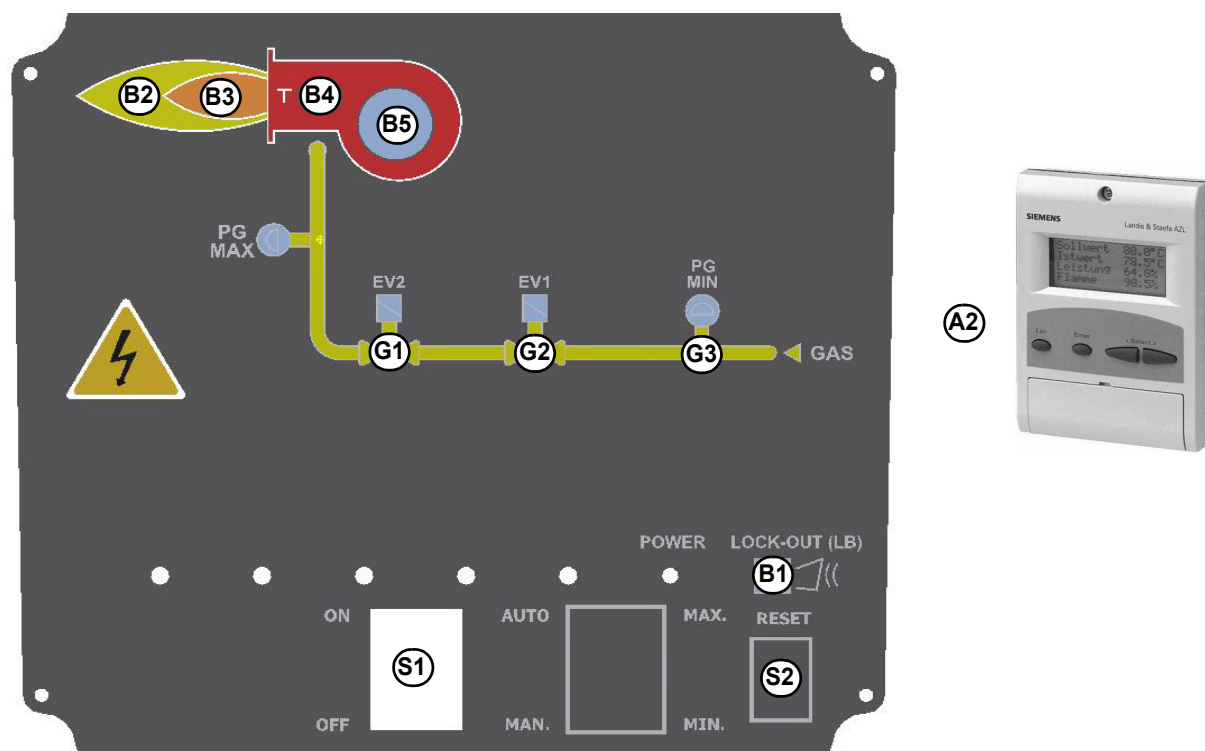

Abb. 1
- 1 Unscrew the screw as shown in Fig. 1